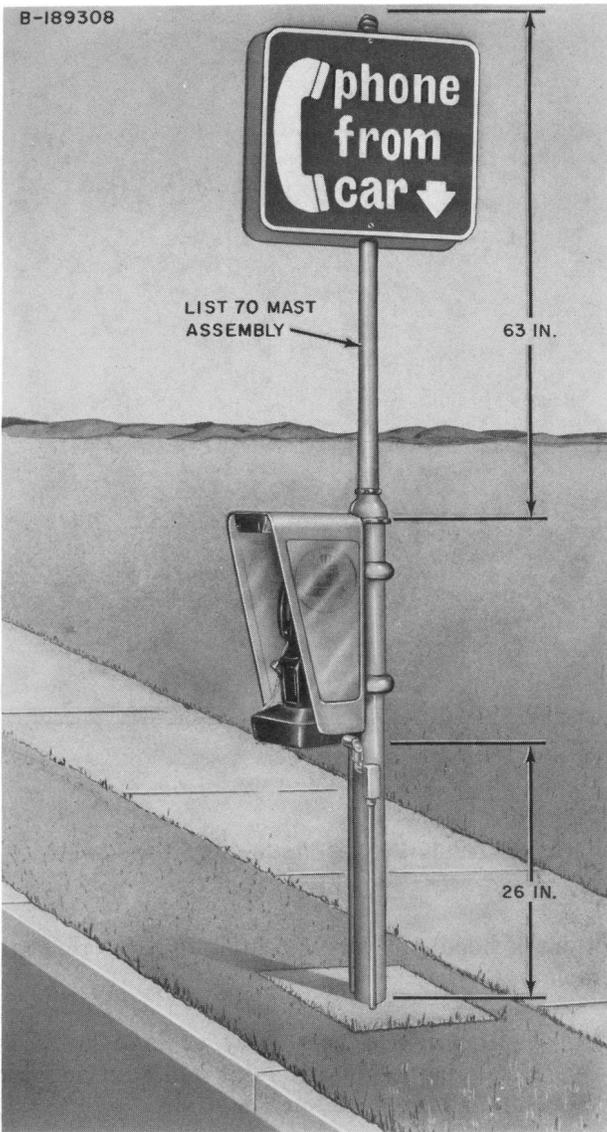

Fig. 4—Drive-Up Installation
2.05 An extension mast for attaching public telephone signs can be used on top of the mounting post (Fig. 4). See Table A for ordering information.